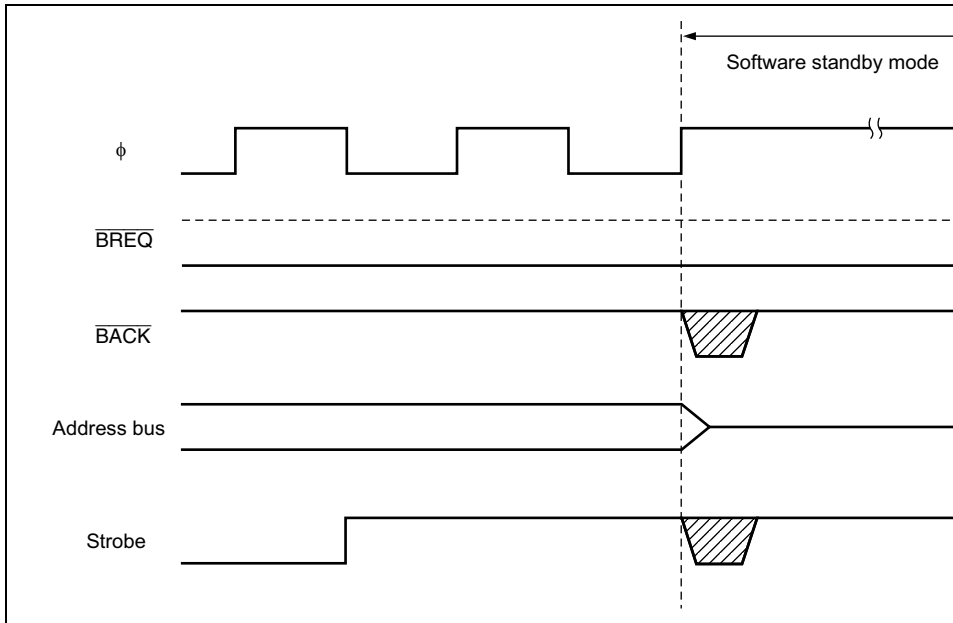

Figure 6.36 Bus-Released State and Software Standby Mode
- In the event of contention with a bus request from an external bus master when a transition is made to software standby mode, the $\overline{\text{BACK}}$ and strobe states may be indeterminate. The transition to software standby mode (see figure 6.36).
In the event of contention with a bus request from an external bus master when a transition is made to software standby mode, the \overline{BACK} and strobe states may be indeterminate after the transition to software standby mode (see figure 6.36).